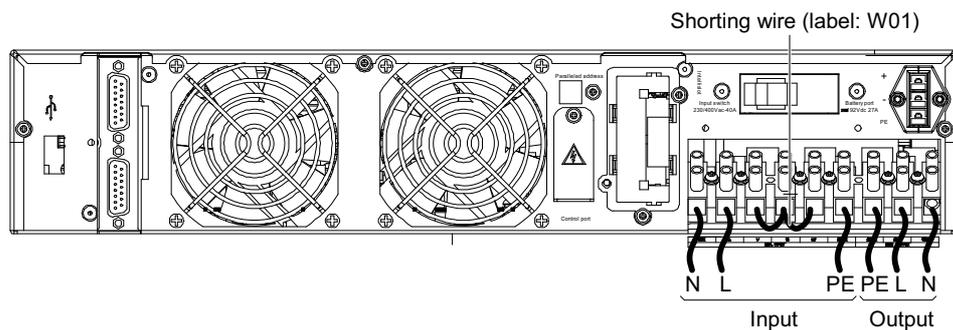

Figure 2-15 Cable connection for 1-in 1-out
3. Connect the mains input N line, L line and PE line respectively to the input neutral line terminal, input live line terminal (U), input ground line terminal of the UPS I/O terminal block, and tighten the fixing screws. Short the input live line terminal (V), input live line terminal (W) and input live line terminal (U1) using the shorting line (label: W01), as shown in Figure 2-15.
4. Connect the output L line, N line and PE line respectively to the output live line terminal, output neutral line terminal and output ground line terminal of the UPS I/O terminal block, and tighten the fixing screws, as shown in Figure 2-15.
1. Remove the shorting line (label: W01, see Figure 2-15) from the I/O terminal block of UPS.